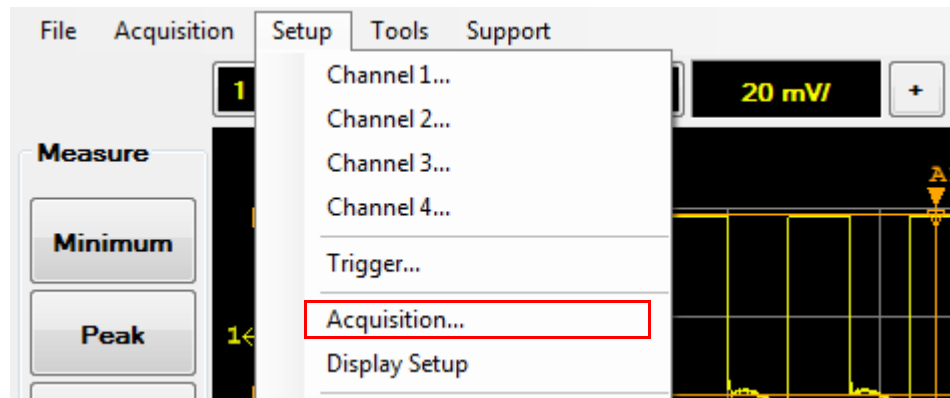

Figure 2-25 Acquisition selection in the Setup menu
- 1 Select **Setup > Acquisitions...** on the toolbar as shown in Figure 2-25.